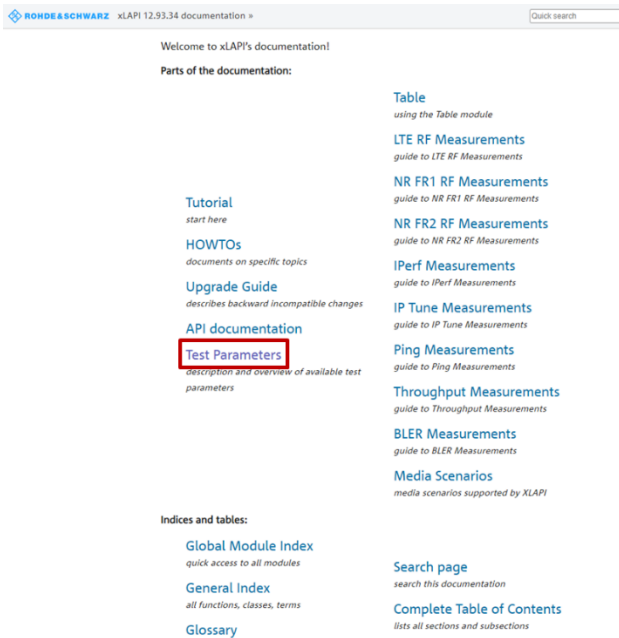

Figure 4-14 'Test Parameters' section in XLAPI help document
3. Click on shortcut XLAPI Help. In the opened XLAPI help document page, select the 'Test Parameters' section (see Figure 4-14)